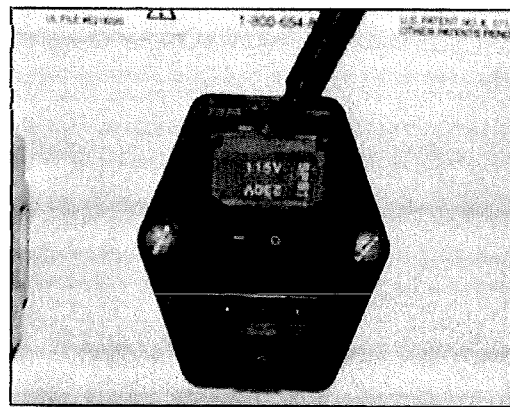

Figure 5.2
- Using the screwdriver, lightly pry open the fuse holder (**Figure 5.2**).